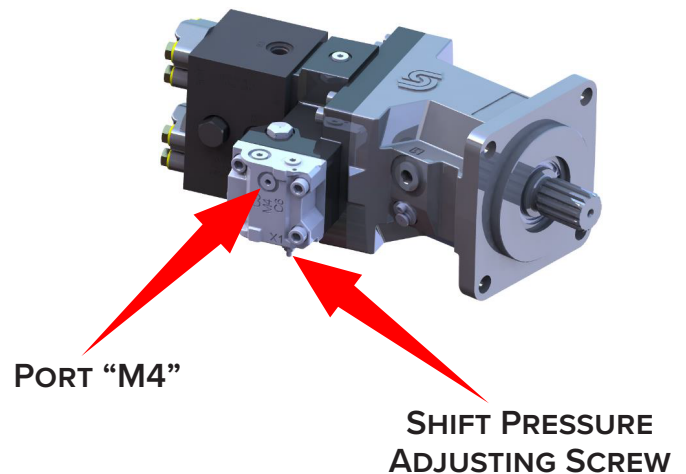

Figure 4
- **NOTE:** The pressure gauge range must be large enough to show the maximum pressure expected in the system. See Figure 4.
- One (1) full turn of the adjusting screw changes the shift pressure by approximately 1300 psi (90 bar).